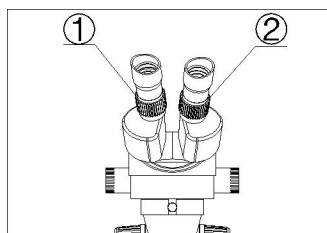

Fig.3
5) Observe the specimen through the right eyepiece and make the image clear by turning the right diopter adjusting ring② .(Fig.3)
6) Redo the step(1),(3),(4)and (5) till the right adjusting ring is more precise.
7) Do the step (4) and make the image clear which is observed through the left eyepiece by turning the left diopter adjusting ring ①. (Fig.3)